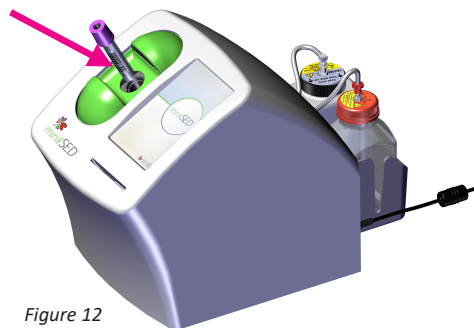

Figure 12
1. Insert the closed, primary tube, with the barcode facing down, into the loading port of the analyzer, as indicated (Figure 12).